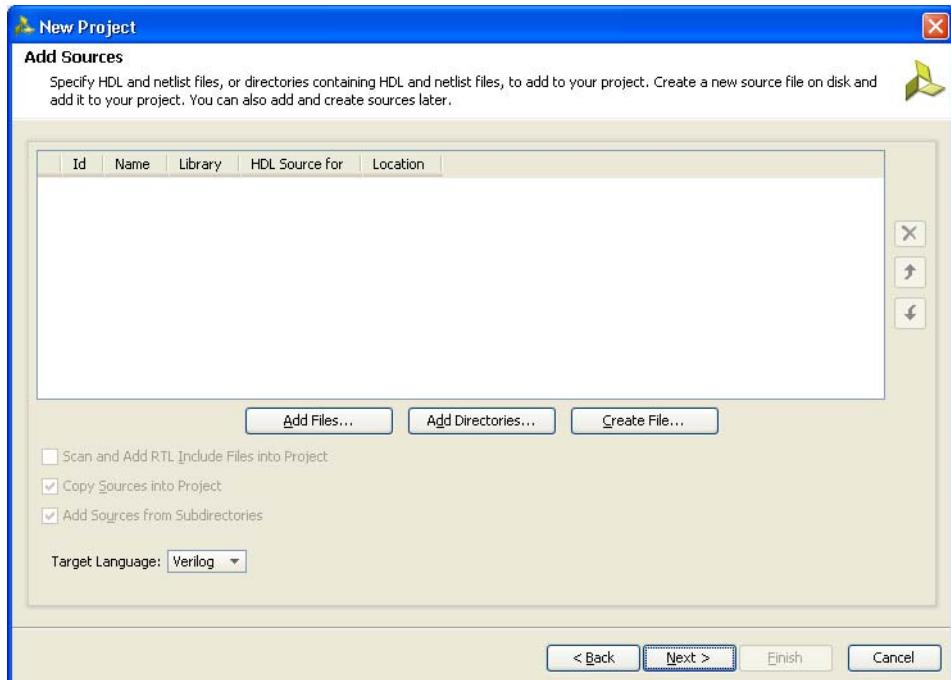

Figure 3-5: Add Sources
5. Click **Next** to proceed to the **Add Sources** page (Figure 3-5). RTL files can be added to the project in this page. If the project was not created earlier, proceed to the next page.